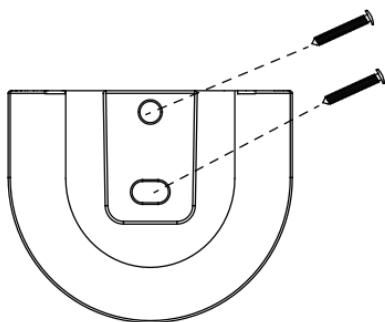

Fig. 15a
- Locate a suitable wall to fix the remote control holder with the 2 screws. (Fig. 15a).